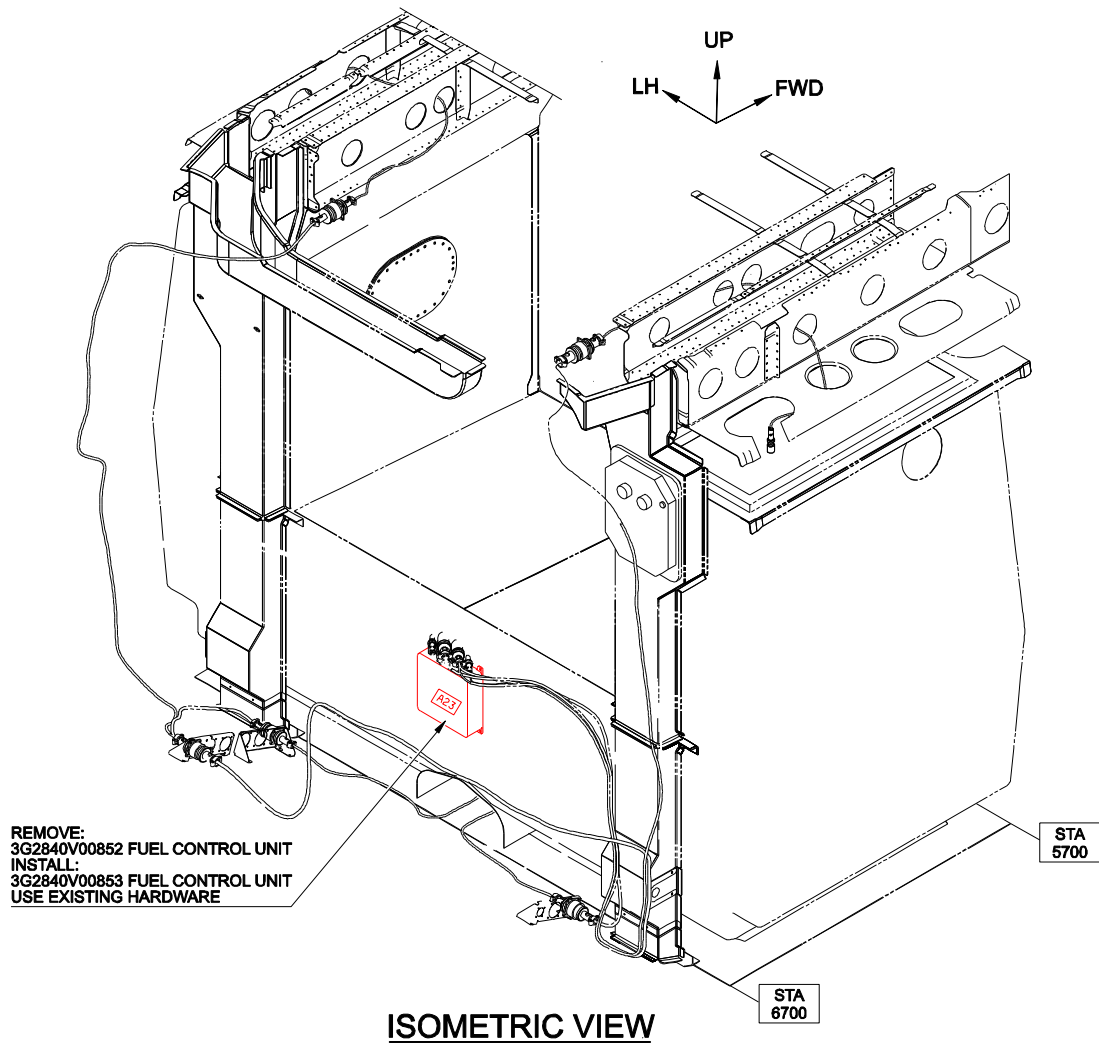

Figure 11
29. With reference to Figure 11 and in accordance with AMP DM 39-A-28-42-05-00A-520A-A, remove the fuel control unit P/N 3G2840V00852.
30. With reference to Figure 11 and in accordance with AMP DM 39-A-28-42-05-00A-720A-A, install the fuel control unit P/N 3G2840V00853 using existing hardware.